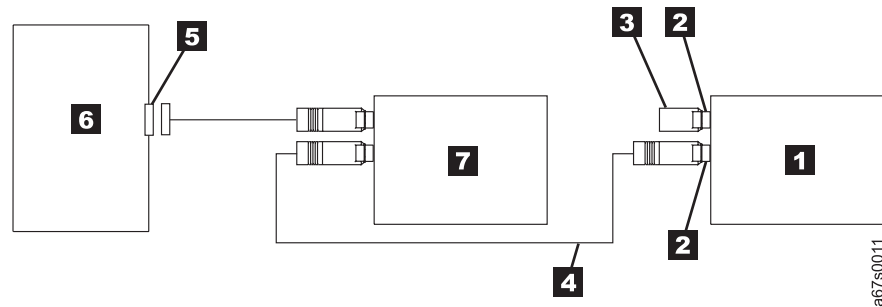

Figure 5. Example of connecting multiple SCSI devices to the server. The view is from the top.
- **If the 3581 Tape Autoloader is One of Multiple Devices on the SCSI Bus:** connect the SCSI bus cable to the next device on the bus, move the terminator to the last device on the bus, then issue the host command to resume operation (see Figure 5).